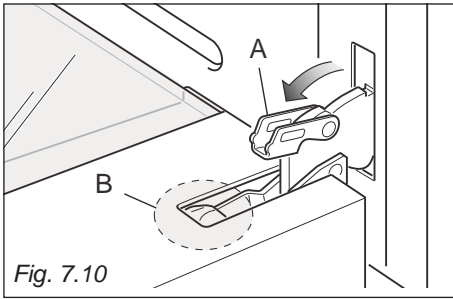
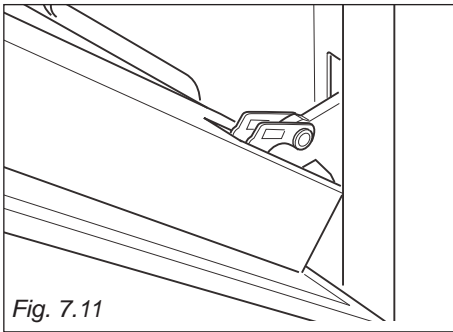

Fig. 7.10
Fig. 7.11
- Open the lever "A" completely on the left and right hinges (fig. 7.10).
- Gently close the door (fig. 7.11) until left and right hinge levers "A" are hooked to part "B" of the door (fig. 7.10).